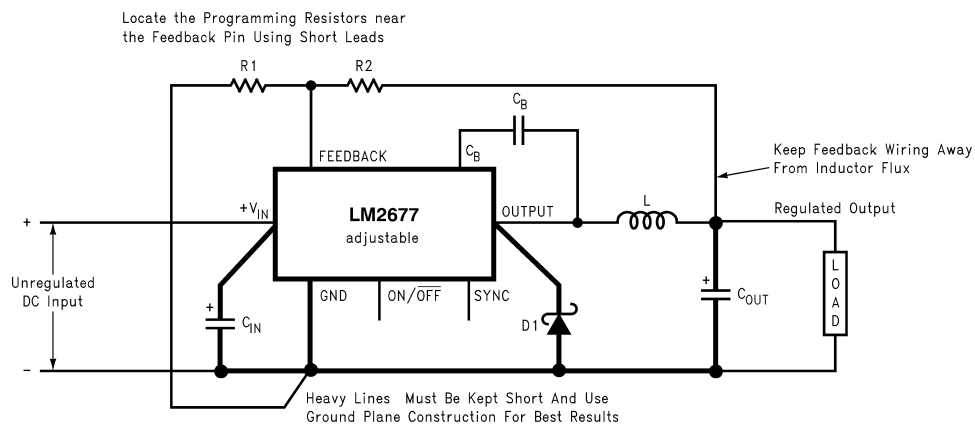

Figure 20. Basic circuit for adjustable output voltage applications
Step 2: Select an LM2677S-ADJ. To set the output voltage to 14.9V two resistors need to be chosen (R_1 and R_2 in Figure 20). For the adjustable device the output voltage is set by the following relationship: